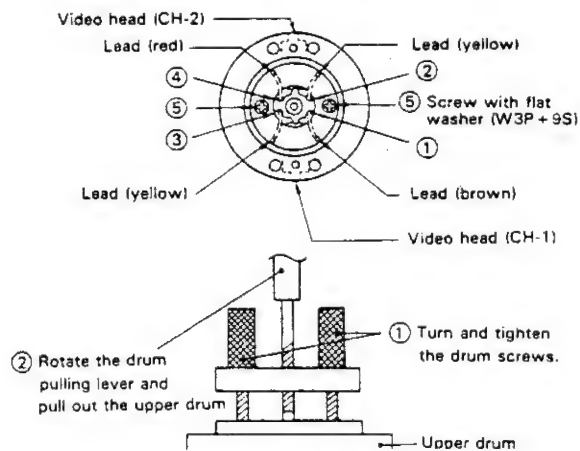

Figure 1-25.
### ● Replacement (See Fig. 1-25)
1. Unsolder the leads ① to ④ from the video head and remove them.
2. Remove the two screws ⑤ (brass screws with washers (W3P + 9S) using a phillips screwdriver.
3. Withdraw the upper drum by pulling it up with the upper drum replacement jig. (Refer to Fig. 1-25.)
1. Set the new drum for replacement, as shown in Fig. 1-25, and position the leads properly.